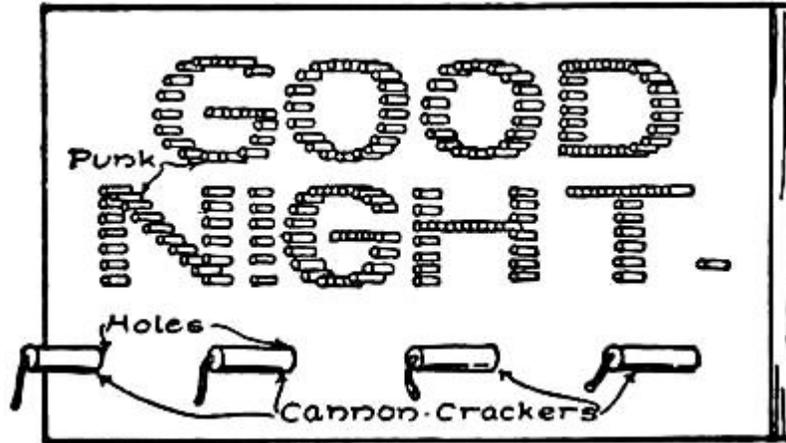

FIG. 299.—A Final Set-piece.
**A Final Set-piece** with which to close the exhibition. A good scheme for such a piece is shown in Fig. 299. Mark out the letters upon a board, and, with a quarter-inch bit, bore holes about one half-inch apart along the outlines of each letter. Then cut enough sticks of punk two inches long to fit all of the holes, and put them to soak in kerosene. The oil makes the punk burn much brighter than it would in its dry state. When the punk is thoroughly soaked, stick the pieces in the holes. A candle will be found most convenient for lighting the punk.